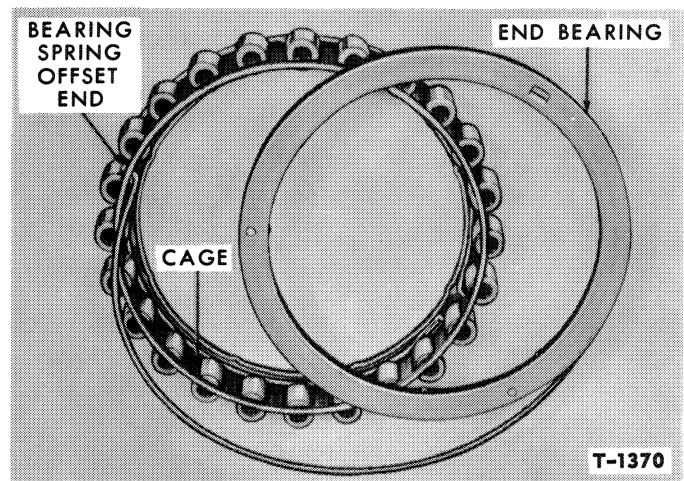

Figure 109—Installing Spring in End Bearing
2. Rotate the bearing with respect to the cage so the spring is wound within the inside diameter of the cage. See Figures 109 and 110.